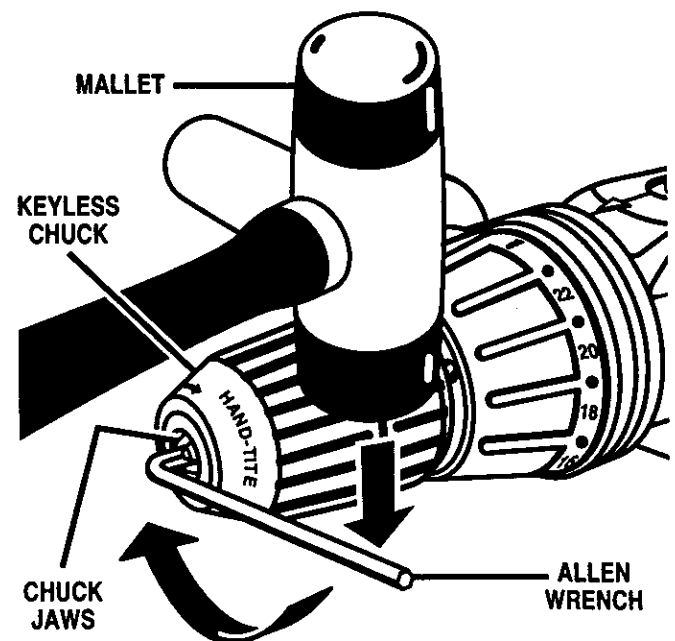

Fig. 15
See Figures 15, 16, and 17.
- Tap the allen wrench sharply with a mallet in a clockwise direction. See Figure 15. This will loosen the screw in the chuck for easy removal.